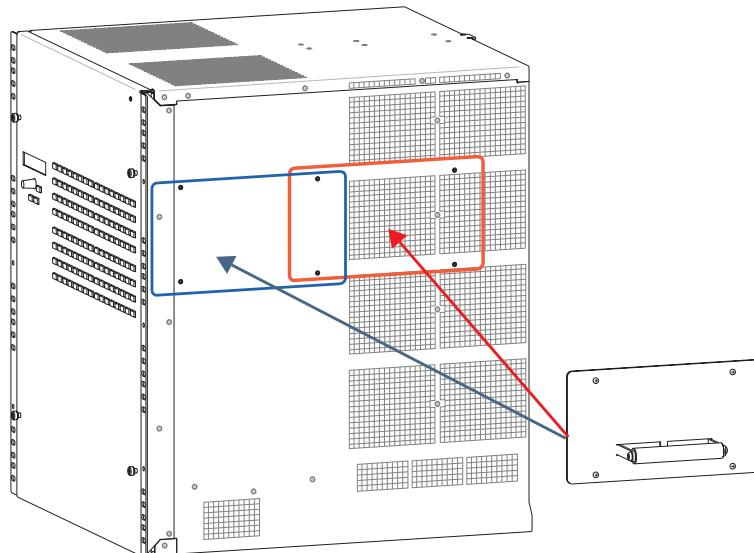

FIG. 16 Handle position options
6. Attach the two handles provided for lifting, using either the front or rear position as indicated in FIG. 16 (be sure to tighten down all four screws securely on both handles).